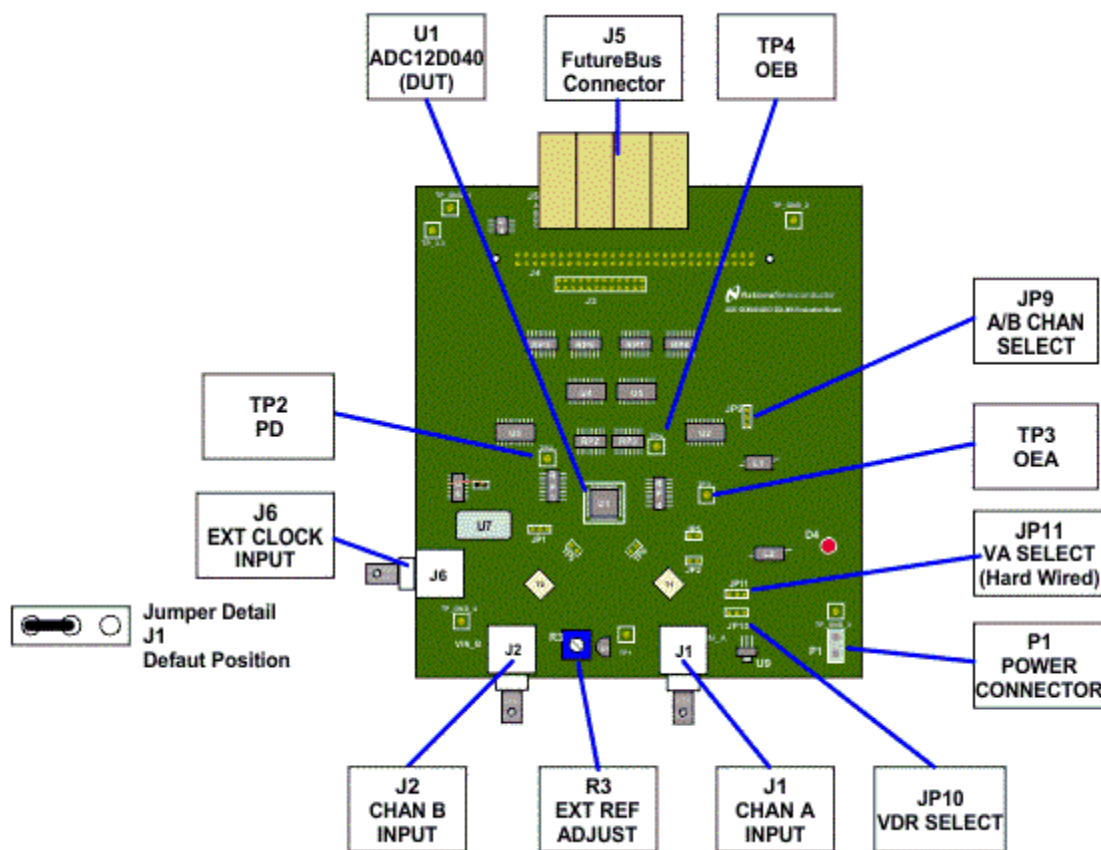
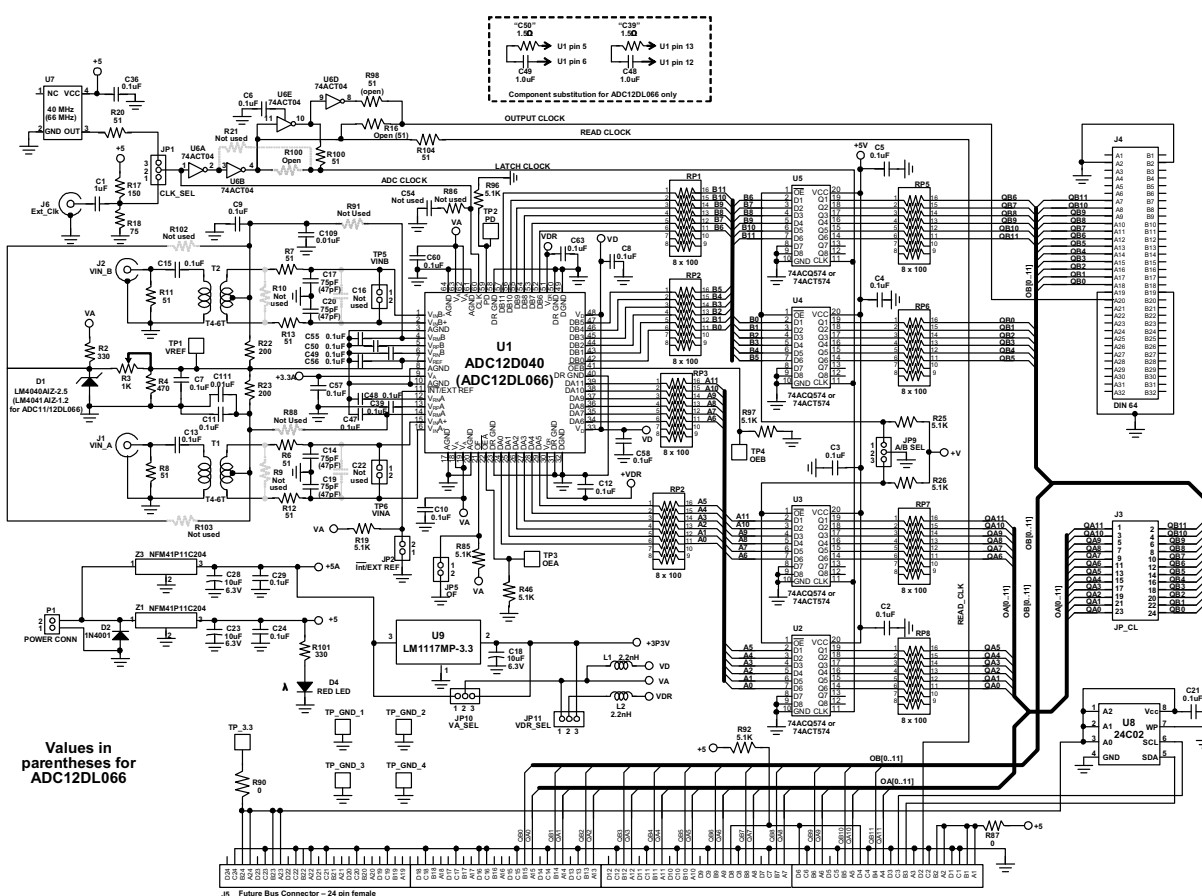

Figure 1. Component and Test Point Locations
Figure 2. ADC12D040 / ADC12DL066 Evaluation Board Schematic
The WaveVision5 software operates under Microsoft Windows. The signal at the two the Analog Inputs is digitized and can be captured and displayed on a PC monitor as a dynamic waveform schematic and is also available at the FutureBus connector J5. See Figure 2.
The ADC12D040 evaluation board comes fully assembled and ready for use. Refer to the Bill of Materials for a description of components, to Figure 1 for major component placement and to Figure 2 for the Evaluation Board schematic.
Refer to Figure 1 for locations of test points and major components.
8. The digitized signal is available at pins A4 through A18 and B4 through B15 of J5. See board schematic of Figure 2.
Table 1 describes the function of the various jumpers on the ADC12D040 evaluation board. The Evaluation Board schematic is shown in Figure 2.